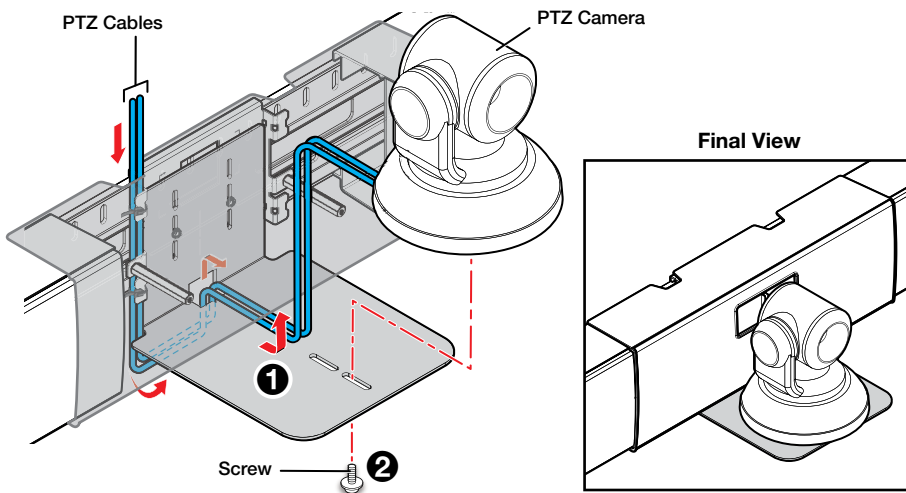

Figure 22. Attaching the PTZ Camera to the Shelf
7. Route the cable to the PTZ camera (see figure 22, ①) and attach it to the camera.
8. Place the camera on the shelf and attach it to the shelf with the mounting screw (②).